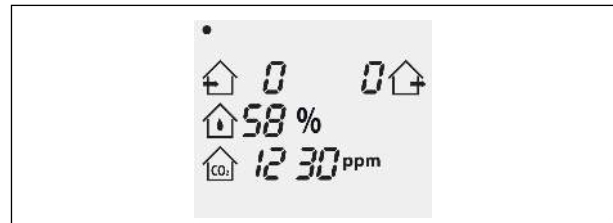

Fig. 29: Ventilation unit in Standby mode
- The current ventilation mode is ended. The ventilation levels for supply air and extract air are set to 0 (see Fig. 29).